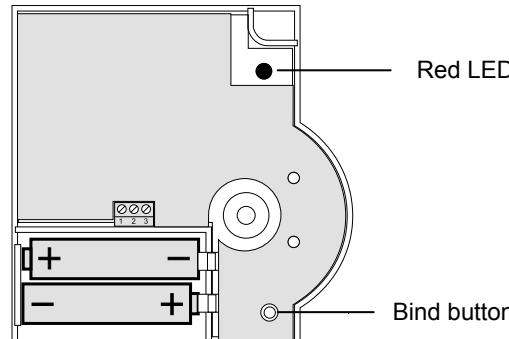

Fig. 2: Battery polarity and Bind button
- ▶ Insert the supplied AA batteries with the correct battery polarity (see Fig. 2). The batteries have to be replaced when the red LED at the HCW 82/HCF 82 flashes (see "Changing batteries", Page 10).